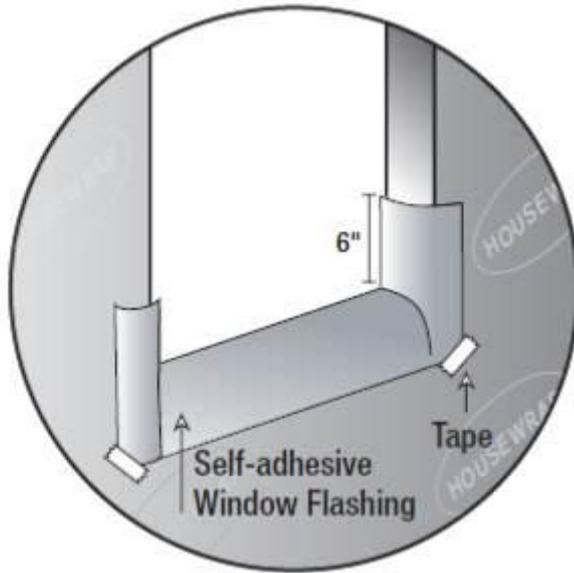

Figure 2 - Install self-adhesive sill flashing in the window rough opening. i
2. Install back dam and self-adhesive flashing at sill. Tape the corners. See Figure 2.